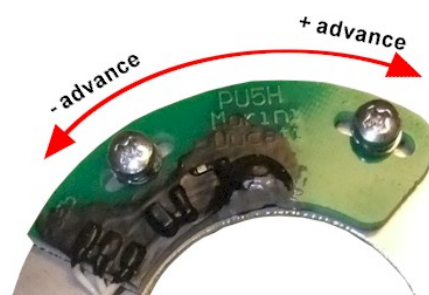

**Figure 6** Ensure correct alignment of magnet disk and sensor.
- Take care that the magnets in the disk are approximately in the same height as the sensor, see figure 6.